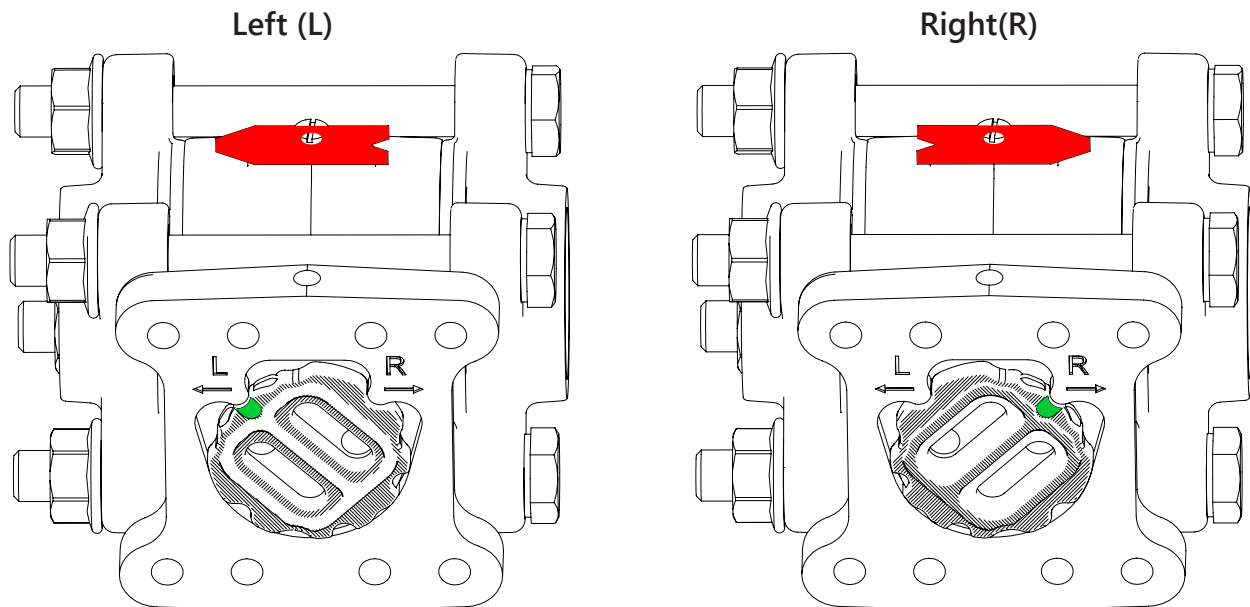

Fig.10
At the time of ordering, the flow direction is specified and decides how the Flow Monitor shall be mounted, i.e. from which side the media enters the Pipe Section. (See Fig. 10 for alternatives.) If, for some reason, the Flow Monitor is ordered with the wrong flow direction, it is possible to change this on-site.
GL- and FA-models are delivered with a flow direction selector that can be used for both directions. First empty the pipe system so it is unpressurized and has no flow. To change the direction, loosen the four (4) hexagon screws, which attach the diaphragm housing to the Pipe Section. Remove the diaphragm housing. Reposition the flow direction selector to match the flow direction of the system (see Fig. 10). There is a green marking indicating the flow direction. Change the direction of the red arrow on the outside of the Flow Monitor.